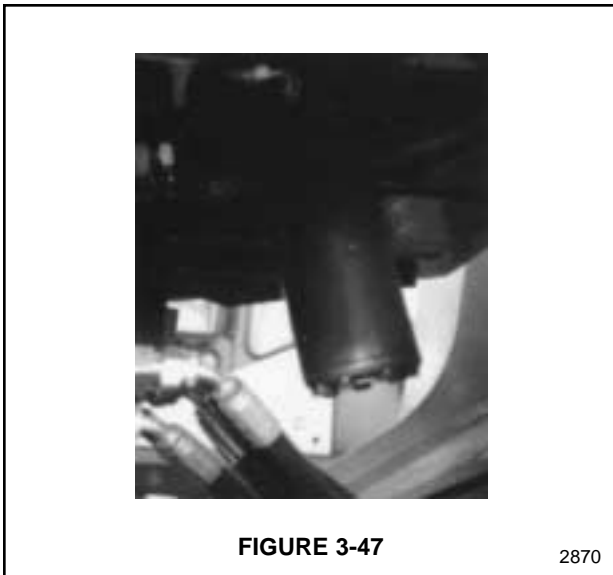

FIGURE 3-47
2. Adjust the relief valve cartridge on the Steering Priority Valve. See Figure 3-47. The cartridge must be adjusted to open at 185⁺⁵ kg/cm² (2,630⁺⁷⁰ psi).